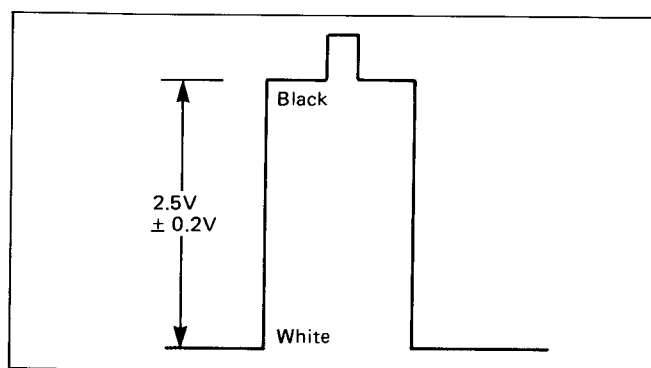

Fig. 21
- Adjust Sub Contrast control VR (R1103) to achieve  $2.5V \pm 0.2V$  on the oscilloscope as shown in Fig. 21.